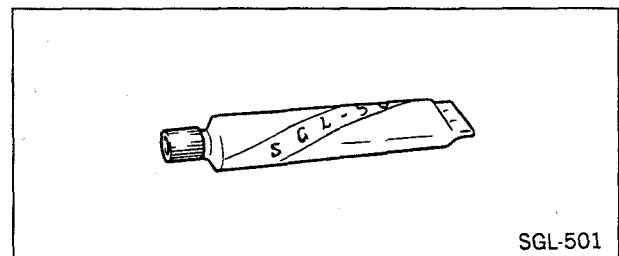

Fig. 3-5-2 Sony Grease
#### (2) Sony grease (Fig.3-5-2)